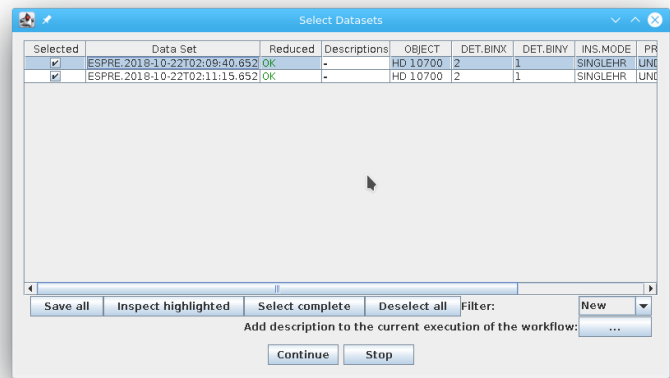

Figure 3.0.3: The "Select Datasets" pop-up window.
- The `Data Set Chooser` actor will be highlighted next and will display a “Select Datasets” window (see Figure 3.0.3) that lists the datasets along with the values of a selection of useful header keywords². The first column consists of a set of tick boxes which allow the user to select the datasets to be processed. By default all complete datasets which have not yet been reduced will be selected. A full description of the options offered by the `Data Set Chooser` will be presented in Section 6.3.2.